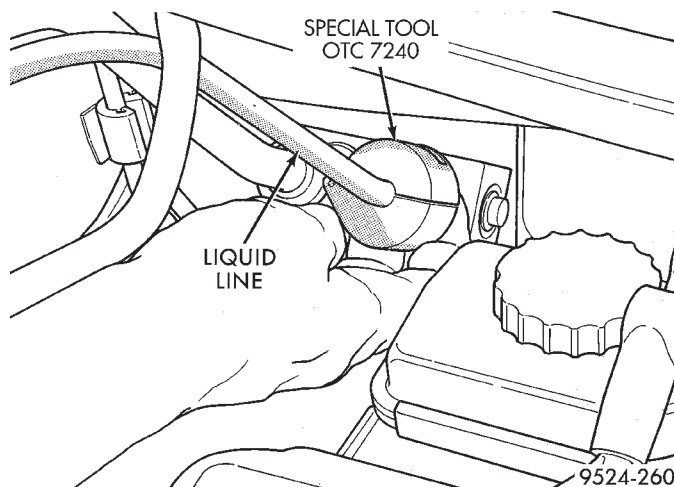

**Fig. 46 Special Tool 7240 For Liquid Line**
- (3) Use special tool kit 7193 to disconnect quick connectors on expansion valve (Fig. 46) and (Fig. 47).